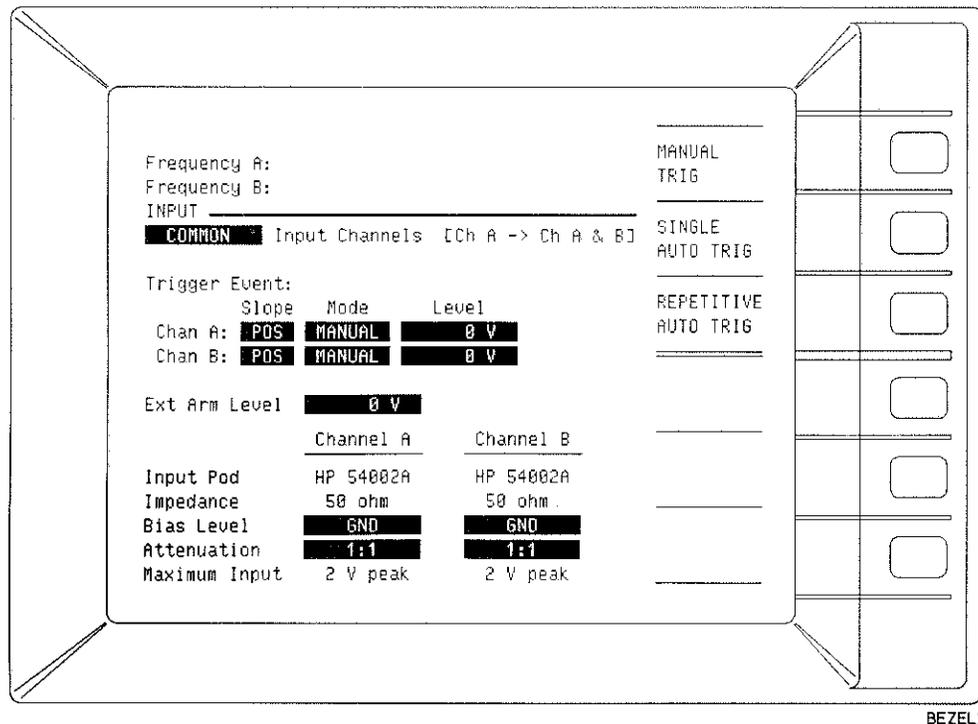

Figure 2-14. Measurement Range INPUT Screen Display
- D. Press the MANUAL TRIG softkey. (The HP 5371A front-panel CRT display should appear as in *Figure 2-14*.)